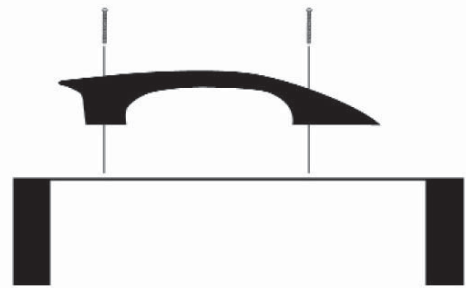

Figure 3. Handle Installation
- With a flat tip screwdriver, securely tighten both screws. (see Figure 3)